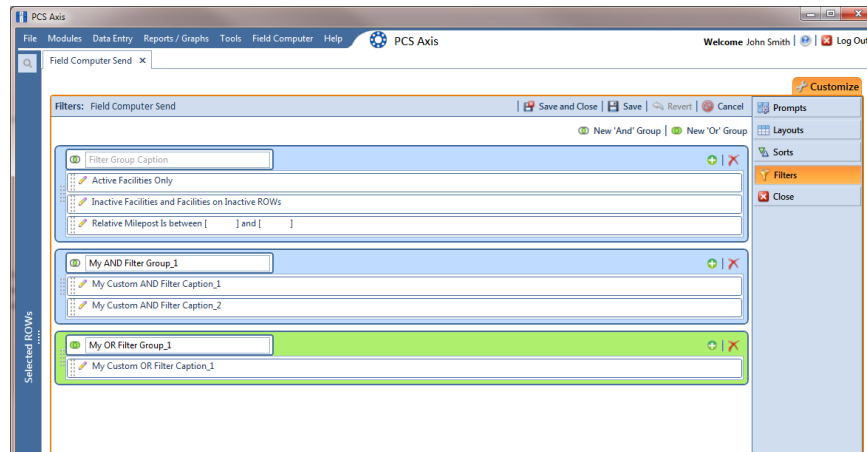

Figure 13-46. Edit Filters
- 4 Click the **Customize** tab , then the **Filters** button  to open the *Filters* page (Figure 13-46, page 645).
- 5 Click the edit icon  to display a filter's property settings (Figure 13-46) .